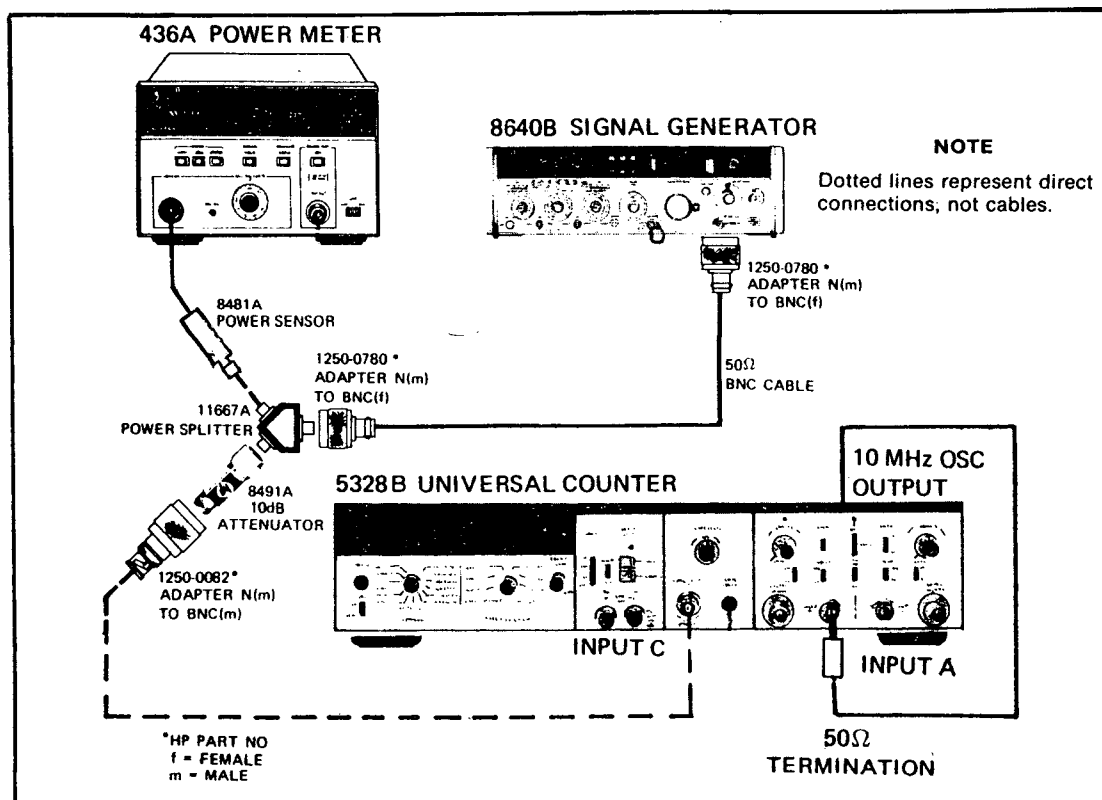

Figure 4-6. Channel "C" RATIO TEST SETUP
- 1) Set up equipment for this test as shown in Figure 4-6.